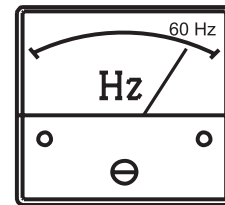

Figure 48. Frequency Meter
5. The generator's **frequency meter** (Figure 48) should be displaying the 60-cycle output frequency in **HERTZ**.